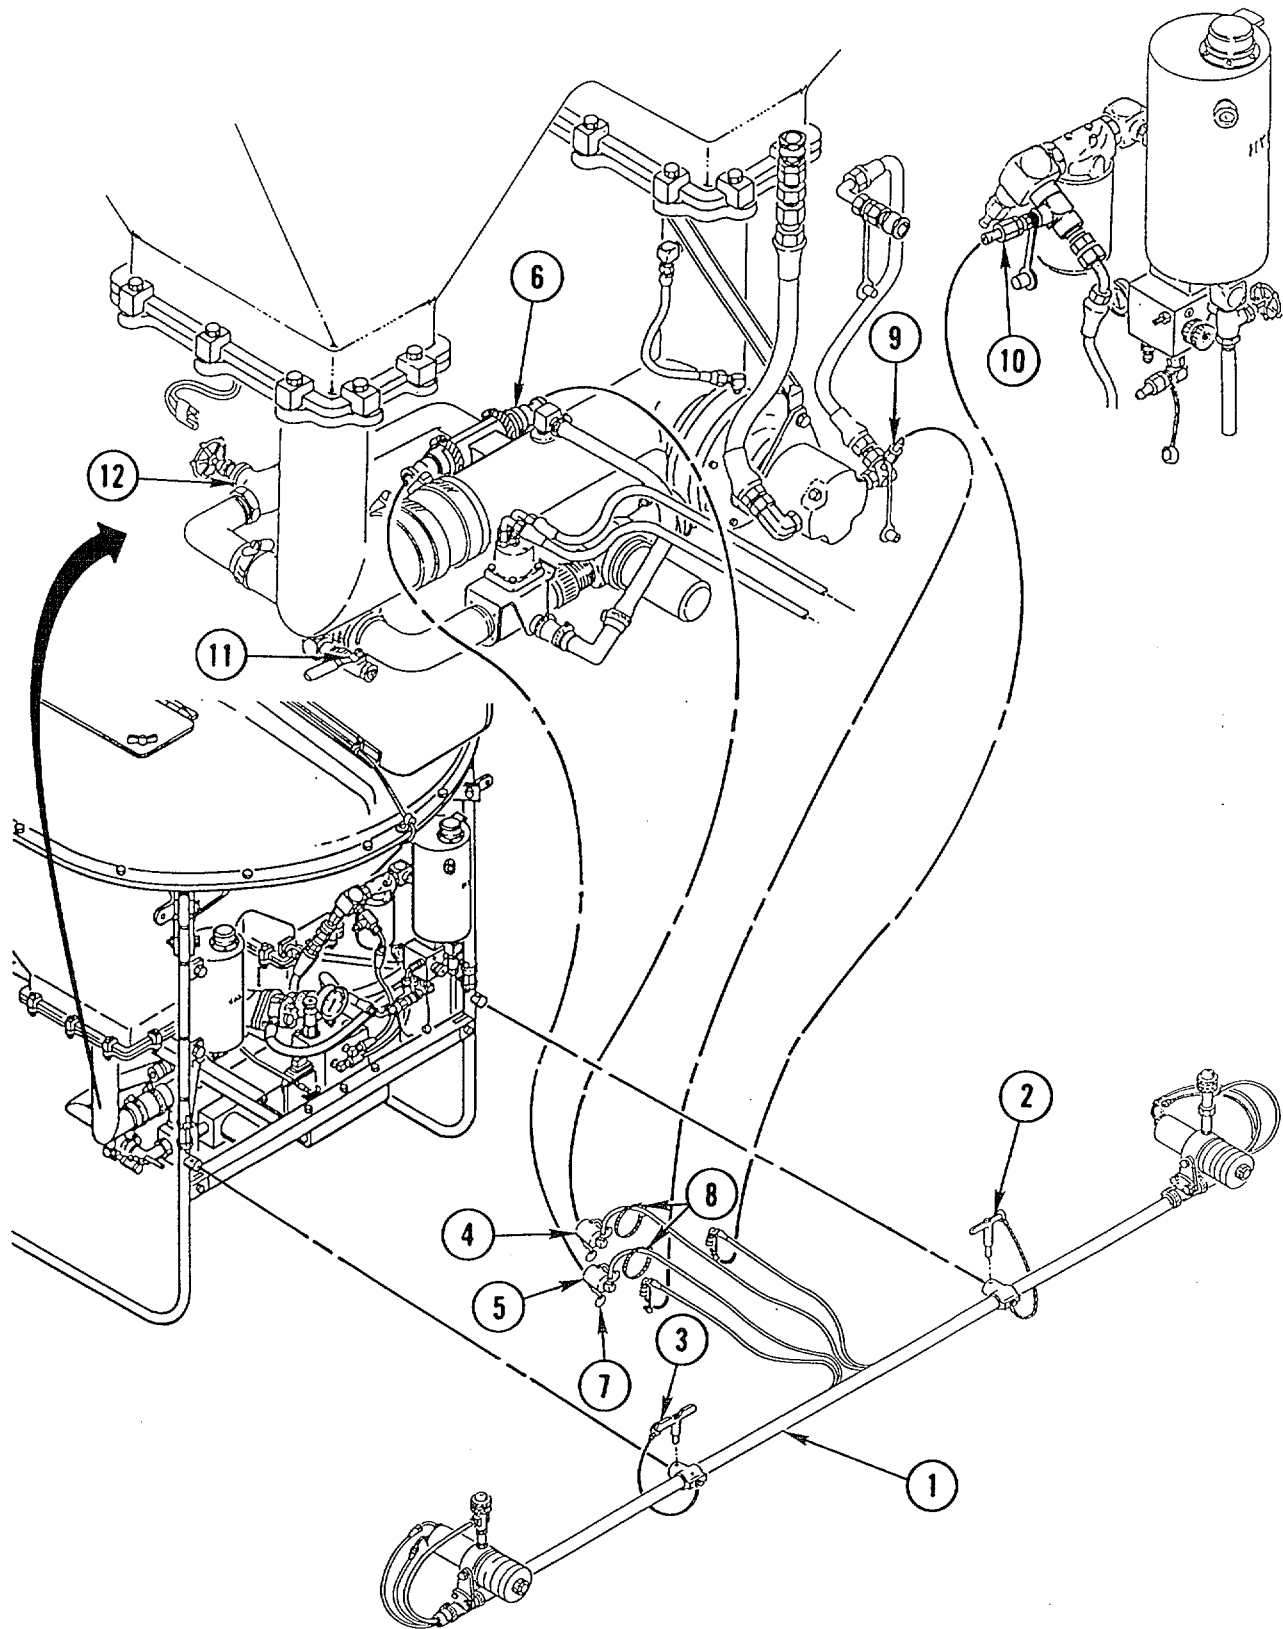

Figure 2-7. Assembly of ULV System
- (1) Attach ULV boom (1, figure 2-7) to ULV attachment points on bucket frame using two quick-release pins (2 and 3).
- (2) Attach Kamlock hose ends (4 and 5) over crosstube to center boom (6). Secure by closing Kamlock ears (7).
- (3) Install clamps (8) over Kamlock ears (7) and tighten.
- (4) Attach hydraulic quick-disconnect fitting (9) to hydraulic motor.
- (5) Attach hydraulic quick-disconnect fitting (10) to hydraulic filter elbow fitting.
- (6) Make sure ball valve (11) is completely closed and crosstube gate valve (12) is open.
- (7) Complete operational test (para 2-10).